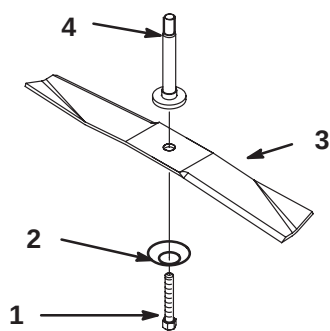

Figure 24
3. Remove the bolt, curved washer, and blade (Fig. 24). A block of wood may be wedged between the blade and the mower to lock the blade when you are removing the bolt.